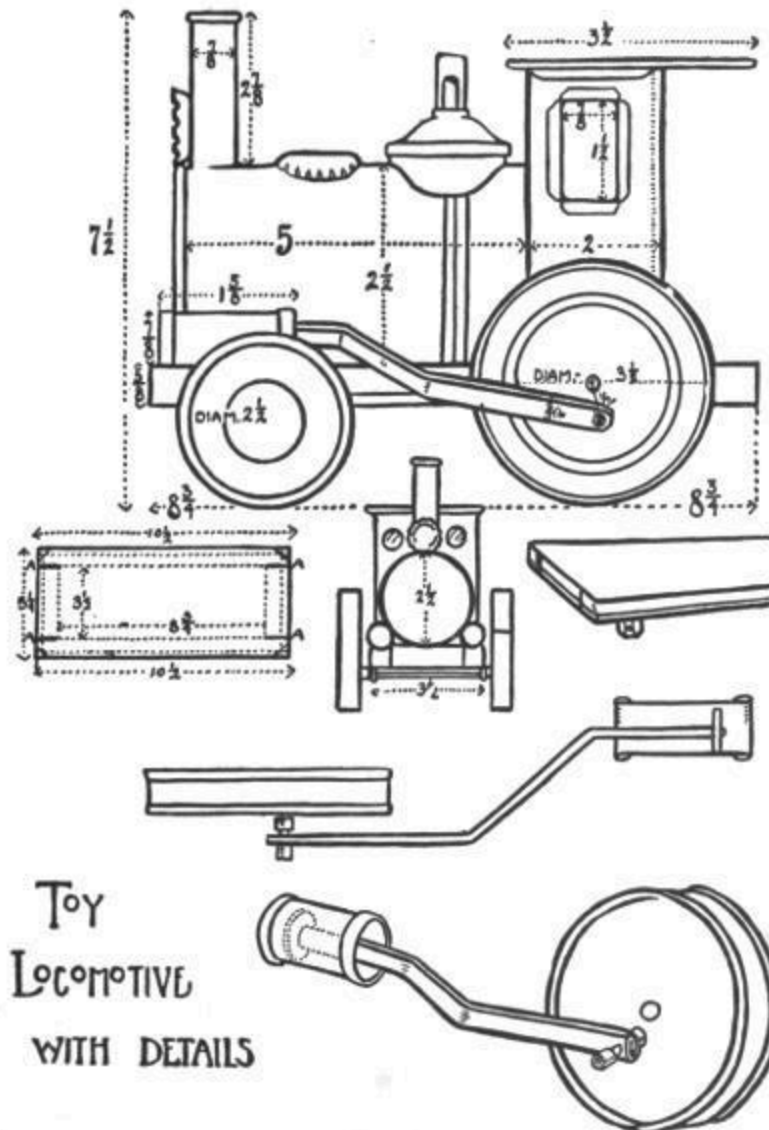

FIG. 89.
The locomotive shown in Plate XV is made so that the connecting rods move back and forth as the locomotive is pulled along. The principal dimensions are given in Fig. 89. This locomotive is not much more difficult to make than the auto truck, but it should not be attempted until the auto truck is satisfactorily completed.
**The Frame.**—The frame of the locomotive should be made first, and it is made from a flat piece of tin  $5\frac{1}{4}$  by  $10\frac{1}{2}$  inches. Scribe a line  $\frac{1}{4}$  inch inside and along all edges, cut off the corners as shown in Fig. 89 and fold all four edges in. Cut into the corners of the frame on lines A, A, A, A.
Turn down the two sides of the frame first, then turn down the two ends. The four pieces of the sides that project beyond the sides are turned in over the ends as shown in Fig. 89. The sides and ends of the frame may be turned over a square maple block. Solder the frame at the ends.
**The Boiler.**—The boiler is made of two small soup cans. One whole can is used and the bottom and part of the sides of another can of exactly the same size is soldered to the first can to make a long boiler. One long can, if obtainable, may be used for the boiler. When two or more cans are soldered together to make a long boiler the two rolled rims of the cans soldered together give the appearance of a boiler strap as shown in Fig. 89.
The connecting rods have to be bent at the two angles shown in Fig. 89 so that each rod may be in line with the cylinder and with the driving wheel.